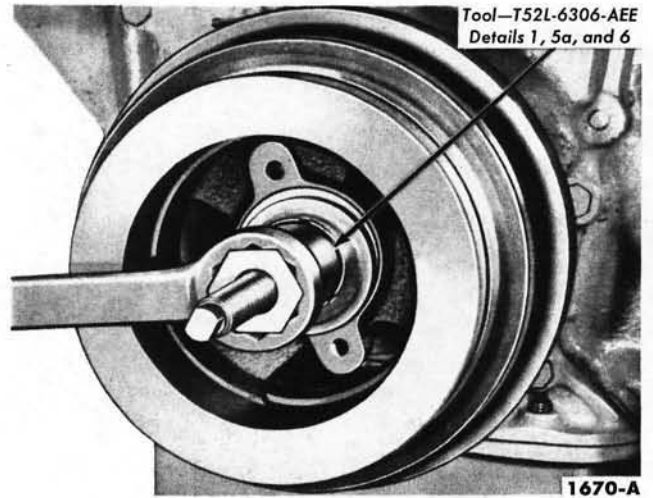

FIG. 30—Damper Installation
1. Lubricate the crankshaft with a hite lead and oil mixture and lubricate the oil seal rubbing surface with grease. Align the damper keyway with the key on the crankshaft, then install the damper (Fig. 30).